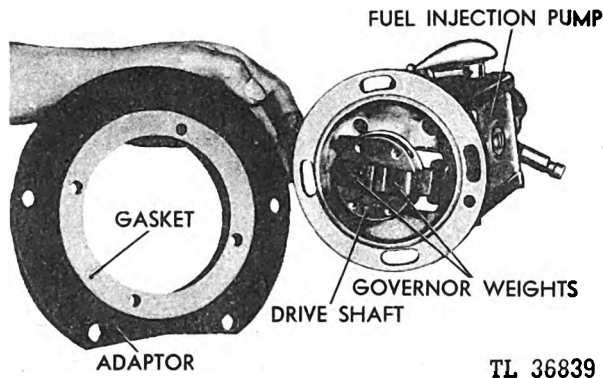
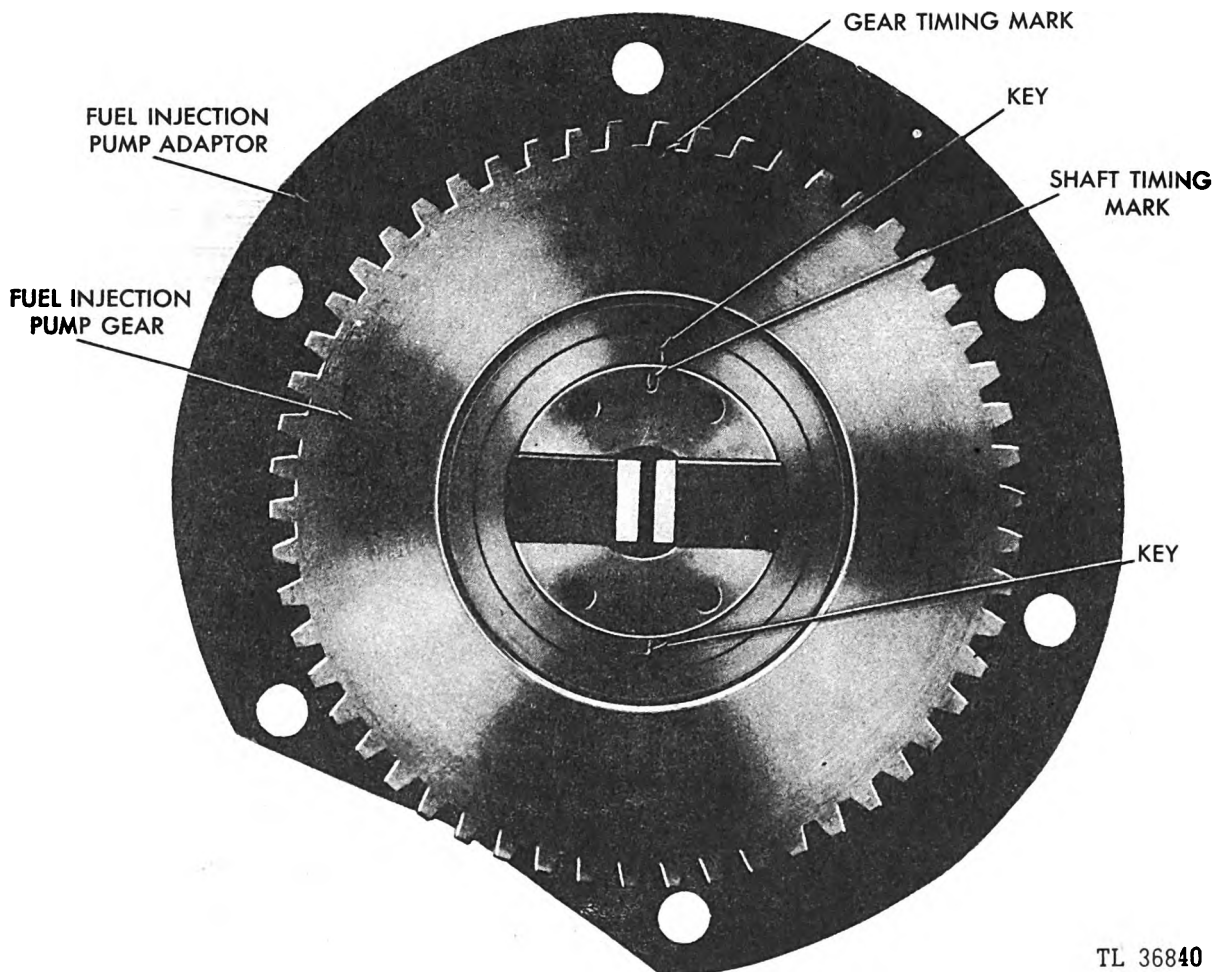

Fig. 187. Assembling Adaptor Plate to Fuel Pump
Fig. 188. Timing Marks on Fuel Pump Gear
(1) If the fuel pump, adaptor, and gear have been disassembled, shellac the fuel pump gasket to the adaptor plate and assemble to the fuel pump. (See Figure 187.) The cap-screws holding the adaptor plate to the fuel pump have one star washer, one plain washer and one star washer under each head in that order. Be sure the cutaway section of the adaptor plate fits into the lower right hand corner of the fuel pump when facing the gear end of the pump. Slip the gear onto the fuel pump shaft with the mark in the gear tooth on the same side of the shaft as the 0 stamped in the end of the shaft. (See Figure 188.) Be sure the fuel pump weight pins are in place in the pump shaft when installing the gear.